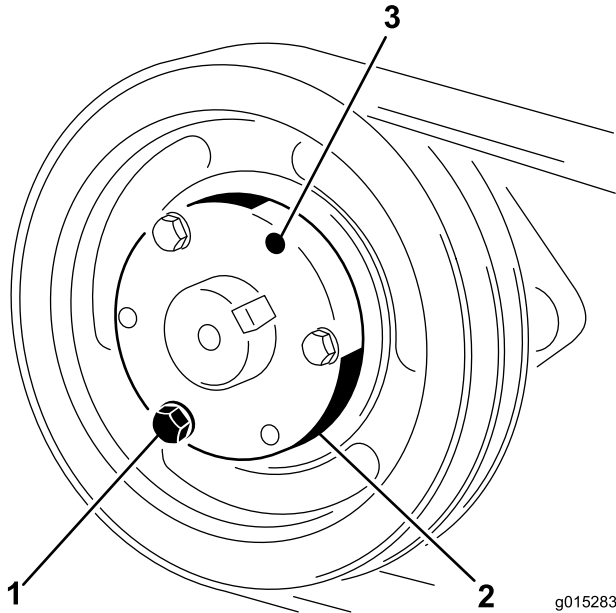

Figure 26
1. Remove the bolts and lockwashers one at a time and screw them into the adjoining holes (Figure 26).